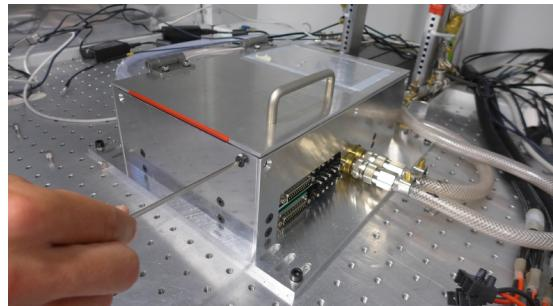

Figure 37: Unscrewing of the walls of the climatic chamber.
- Unscrew top frame (see Figure 37 - upper screws on the sides).